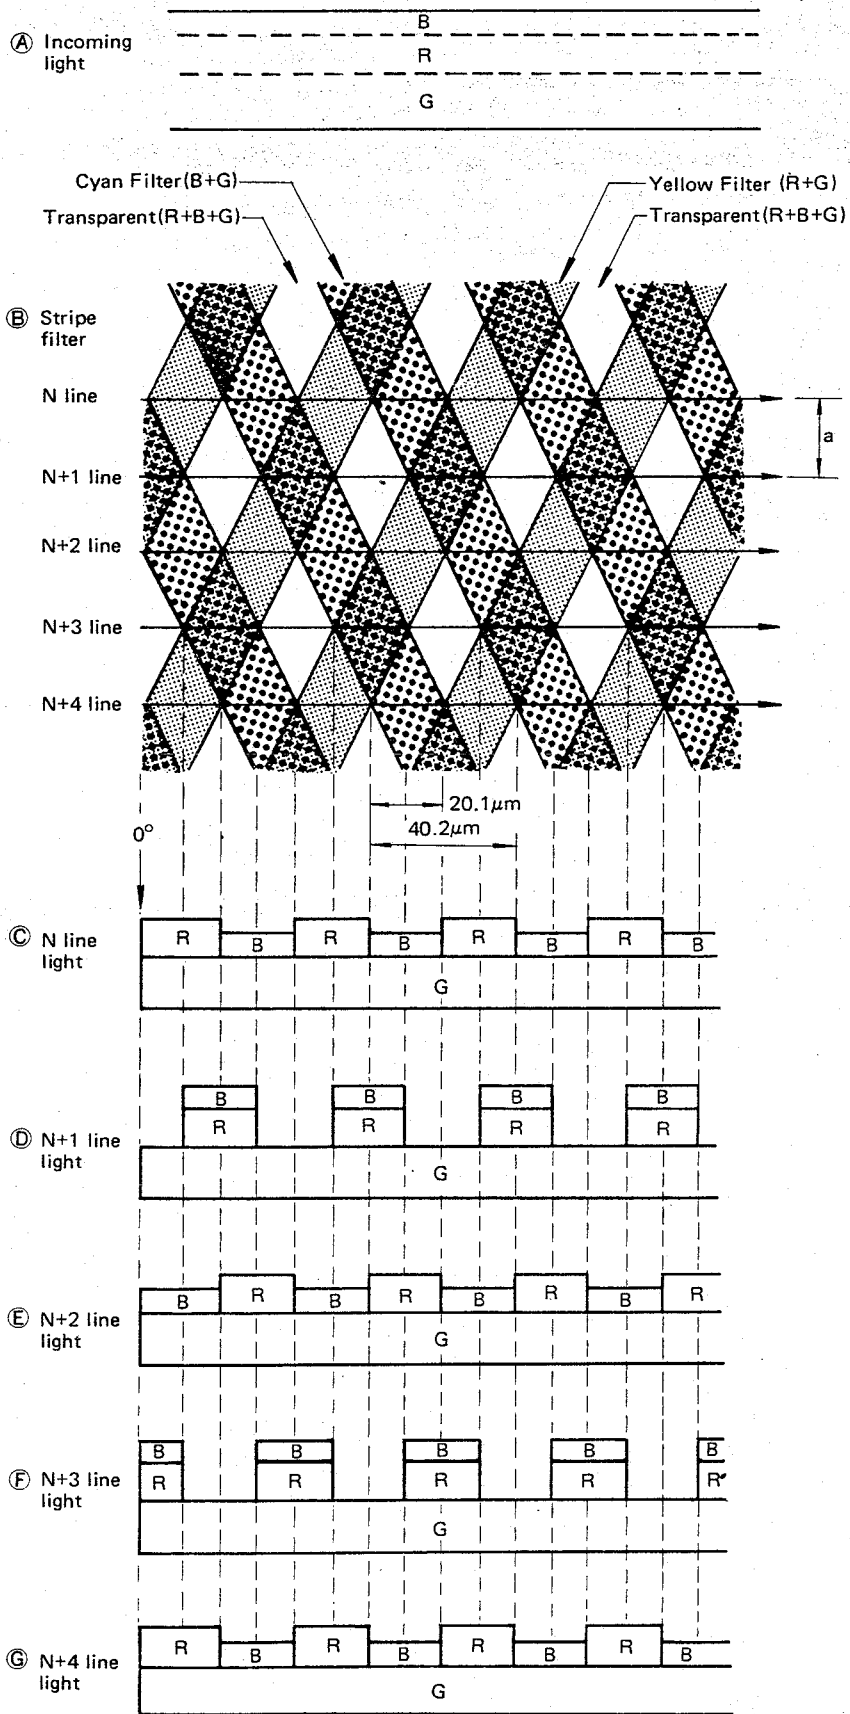

Fig. 10 Light from Stripe Filter
As shown in Fig. 10, the stripe filter integrated into the vidicon consists of a cyan/transparent stripe filter section and a yellow/transparent stripe filter section. These stripe filters are so arranged as to be of the same pitch in the horizontal scanning direction, and have equal angles with respect to the vertical. The vidicon's even and odd scanning lines pass the tracks of the stripe filters that are arranged in the same way. In other words, the even and odd scanning lines are spaced "a" apart.
For easy understanding, let's assume that light of uniform level containing green(G), red(R), and blue(B) reaches the vidicon (Fig. 10 A), and the crosspoint of cyan and yellow stripe filter is scanned as shown in Fig. 10 B.